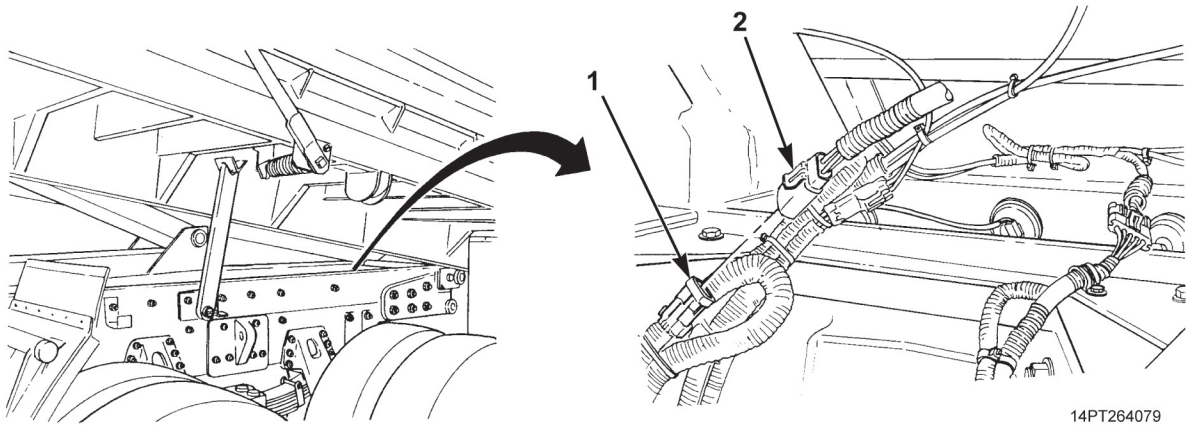

Figure 3. Wiring Harness Removal.
4. Disconnect truck-to-MCS tailgate wiring harness (Figure 3, Item 2) from chassis wiring harness (Figure 3, Item 1).
5. Remove truck-to-MCS tailgate wiring harness (Figure 3, Item 2).